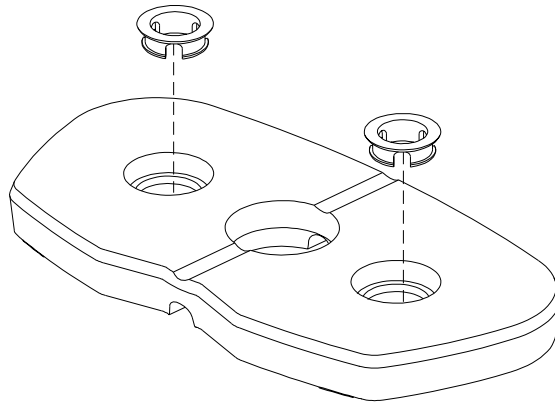

**FIGURE 1**
- **LOOSELY** assemble two BASE PLATES (3) to the FRAME (1) and BASE (2) using four 3/8 X 3-3/4" BOLTS (30) and four 3/8" LOCK NUTS (34). See FIGURE 1.
- **LOOSELY** assemble the FOOTPLATE (62) to the lower holes in the FRAME (1) using one 3/8 x 3" BOLT (29) and one 3/8 LOCKNUT (34)
- **LOOSELY** assemble the **TOP** of FRAME BRACE (64) to the FRAME (1) using two 3/8 x 4" BOLT (63), two 3/8 WASHERS (36) and two 3/8 LOCKNUTS (34) Assemble **BOTTOM** of FRAME BRACE (64) to FRAME (2) using one 3/8 x 3" BOLT (29), one 3/8 x 2-1/2" BOLT (28) three 3/8 WASHERS (36) and one 3/8 LOCKNUT (34)